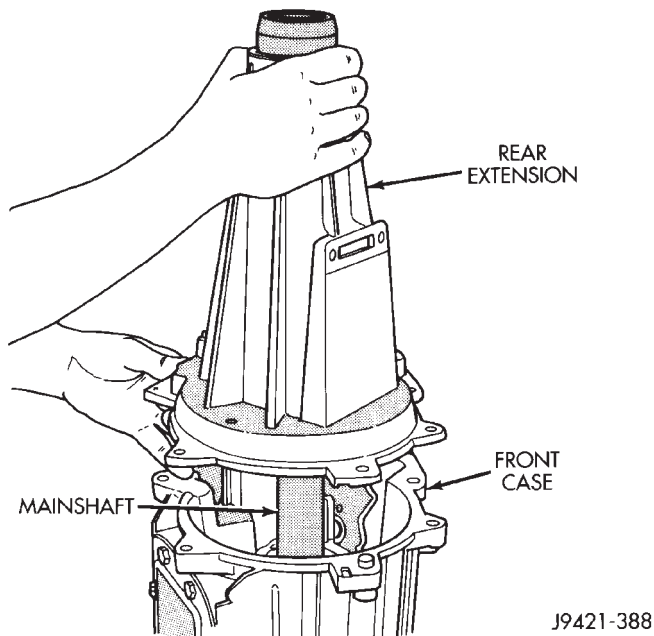

Fig. 26 Removing Rear Extension
- (b) Lift extension up and off mainshaft and front case (Fig. 26).